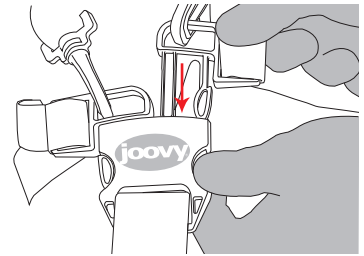

Figure 25
- Bring the seat belt around the child's waist and insert the male ends of the waist/shoulder buckle into the female buckle. Ensure that they snap into place. See Figure 25. Tighten the waist belt to be snug around the child's waist.